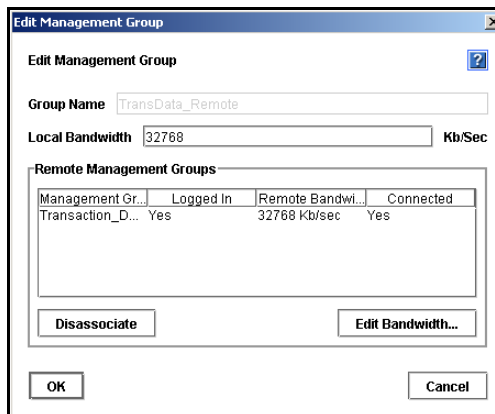

Figure 241. Editing a Remote Management Group
1. Right-click the remote management group and select Edit Management Group. The Edit Management Group window opens, shown in Figure 241.